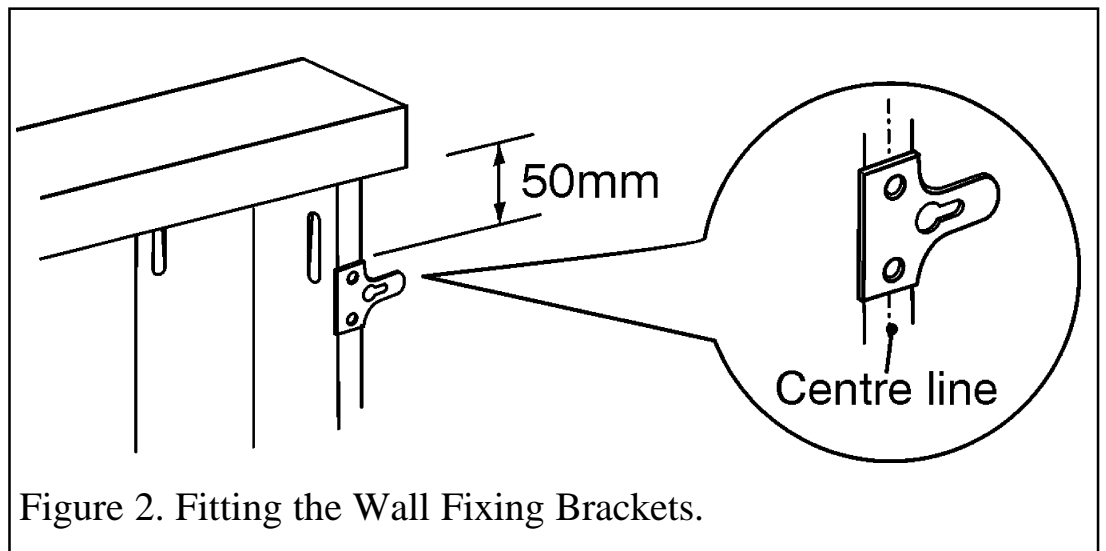

Figure 2. Fitting the Wall Fixing Brackets.
- Lay the surround (A) onto a smooth, flat, clean surface with the inside facing upward. Place wall fixing brackets (C) 50mm from the top outside edge of the legs as shown in figure 2. Ensure that the two fixing holes in the brackets are positioned in the centre of the outside edge of the leg. The wood may split if the fixing holes are not central. Secure in place using four screws (F). Guide holes may already be in place.